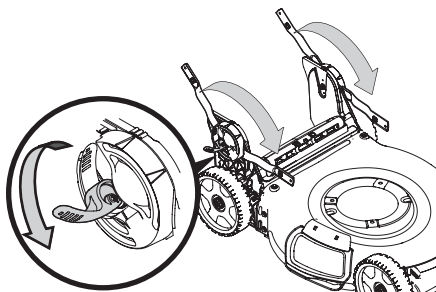

Figure 7
2. Unlock the two handle release levers. See inset, Figure 7.